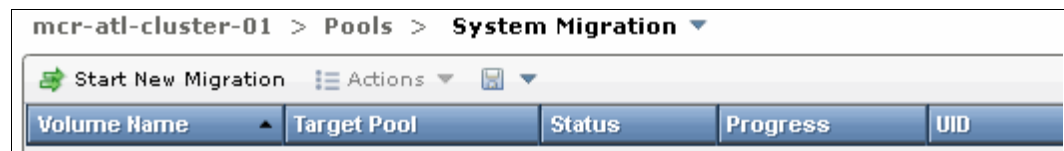

Figure 6-23 Start new migration
3. Start New Migration to open the wizard on the Storwize V5000, as shown in Figure 6-23.